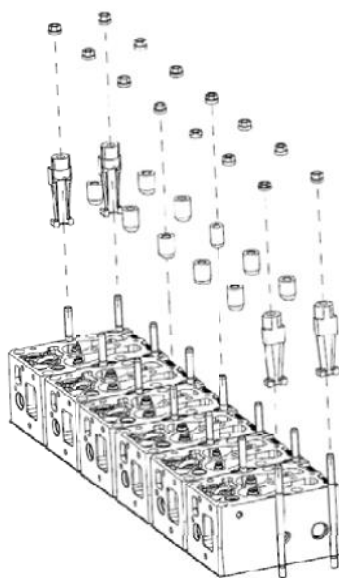

Fig. 4-15 Assembly of cylinder cover auxiliary nuts and clamp blocks
- 2) Centre the cylinder covers orderly, apply proper amount of clean engine oil on thread and bearing surface of cylinder cover main bolts and nuts, and then install the bolts and nuts on cylinder cover and clamp blocks respectively. Notice that there are two kinds of clamp blocks: one is installed between two adjacent cylinder covers, the other is installed on two sides, as shown in Fig. 4-15.